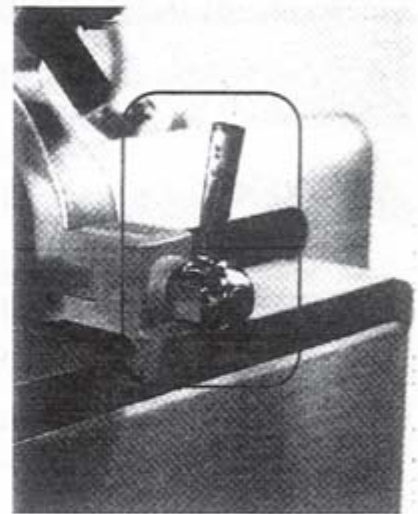

Figure 12-1
9. Remove Slicer from automatic mode by pulling down automatic release handle to lower position. (Fig. 12-1) (The food chute should be free to move manually forward and backward.) Turn the slice thickness dial all the way clockwise to close the slicer table. Pull the food chute handle all the way toward operator. Now you can load or unload the food product.